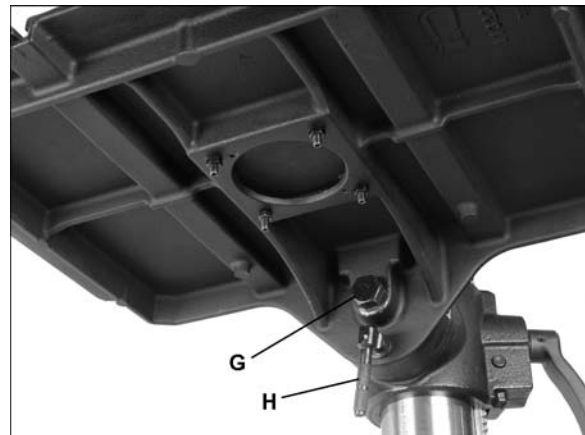

Figure 6
11. Slightly loosen bolt (G, Figure 6) beneath table, and loosen locking handle (H). Rotate table to horizontal, and retighten handle and bolt (H,G).